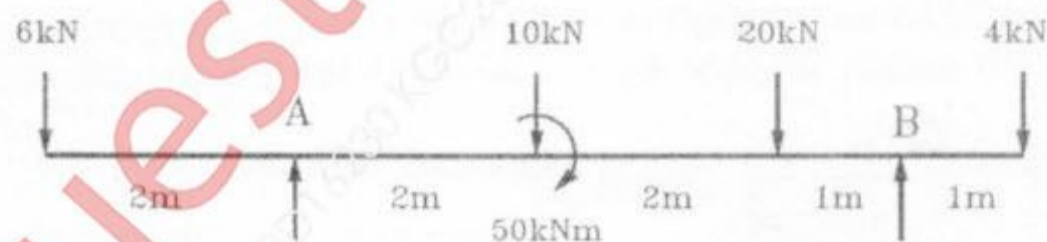

Figure 3
- B) Find slope and deflection equation for the beam as shown in figure given below. (10) Determine the deflection at a point where couple 50 kNm is acting (Figure 3) Take, $EI = 2 \times 10^4 \text{ KN/m}^2$.